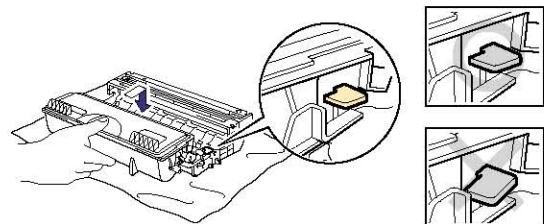

Fig. 5-7
- (6) Install the new toner cartridge into the drum unit until you hear it lock into place. when the toner cartridge is installed correctly, the lock lever is lifted automatically. (Fig.5-7)